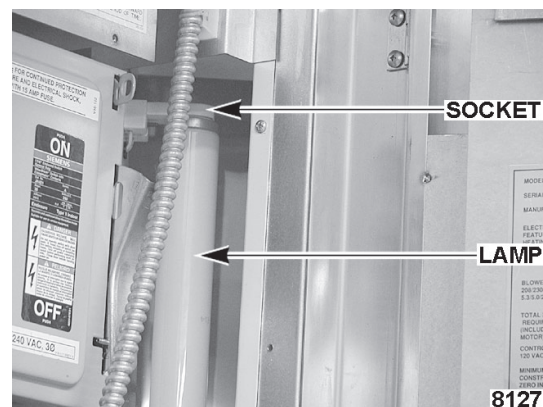

Fig. 2
3. Twist lamp (Fig. 2) to disengage from lamp sockets (Fig. 2) and carefully withdraw lamp from area.